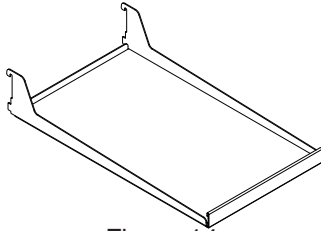

Figure 14
- (2) frame and flat glass shelf. (See Figure 14).
- (1) half width flat glass cantilever shelf. (See Figure 14).